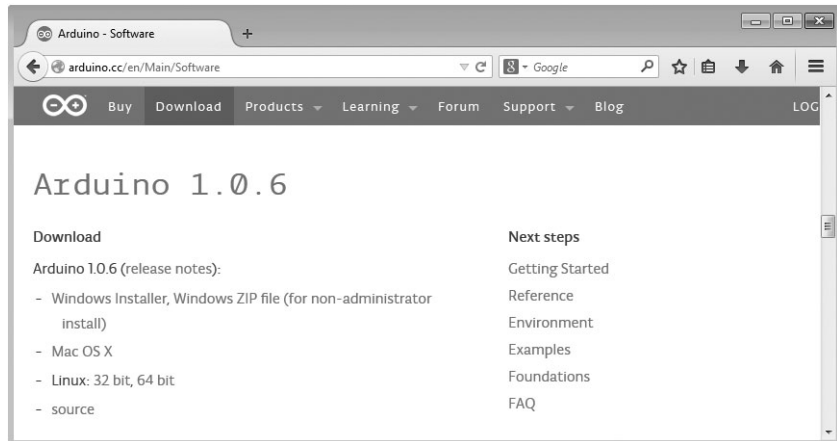

Figure 1-14: The IDE download page in Windows Firefox
1. Using a web browser such as Firefox, visit the software download page located at <http://arduino.cc/en/Main/Software/>, as shown in Figure 1-14.